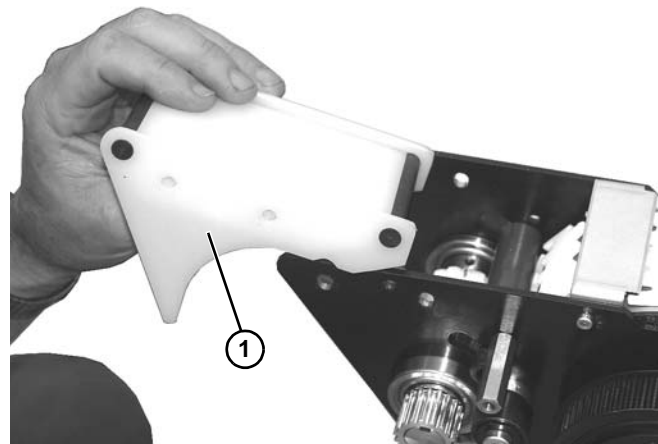

Figure 148
10. Remove wear bar assembly (**Figure 148, item 1**) from power transfer.